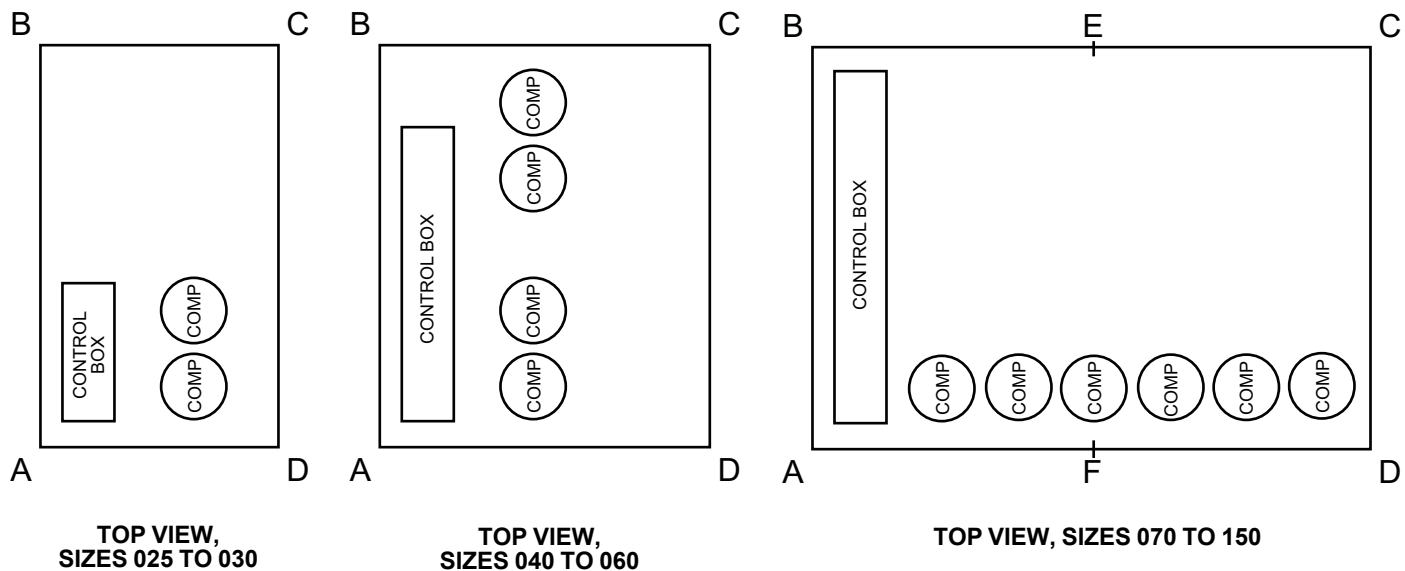

Fig. 4 — Compressor Locations and Support Points
- b. For support points, see Fig. 4.